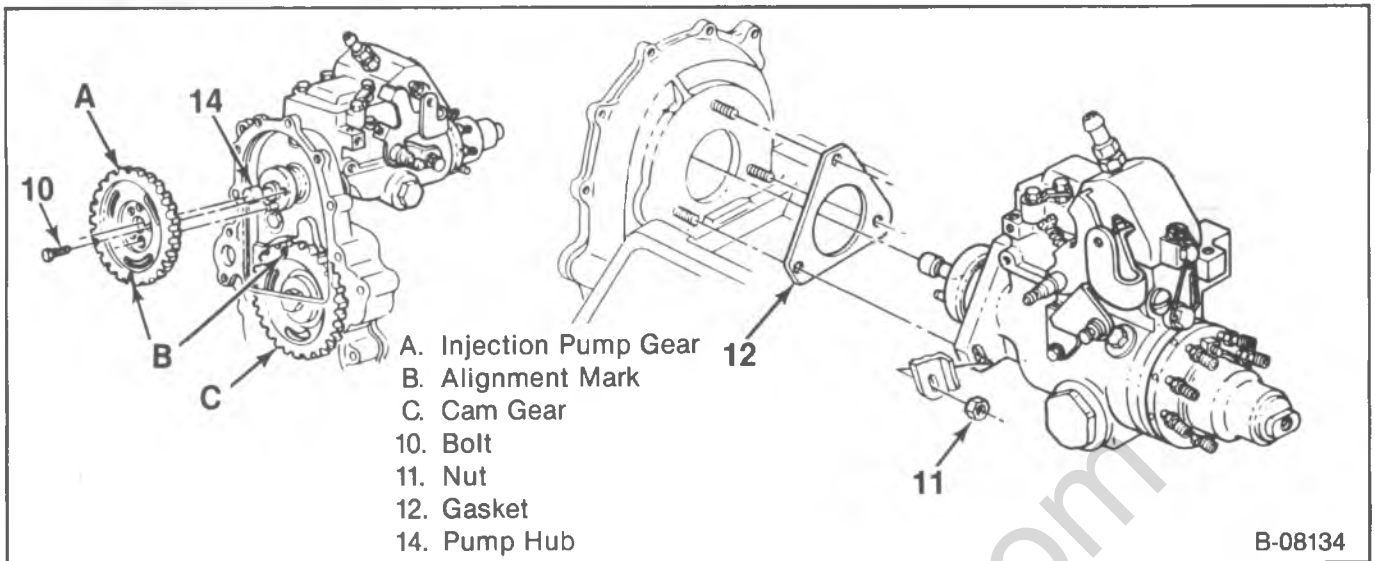

Figure 11—Injection Pump Installation
12. Bolts (10).
13. Nuts (11) (figure 11).
15. Gasket (12).
3. Nuts (11) (figure 11).
- 4. Drive gear to injection pump bolts (10) (figure 11).
24. Pump to front cover attaching nuts (11) (figure 11).
26. Gasket (12).